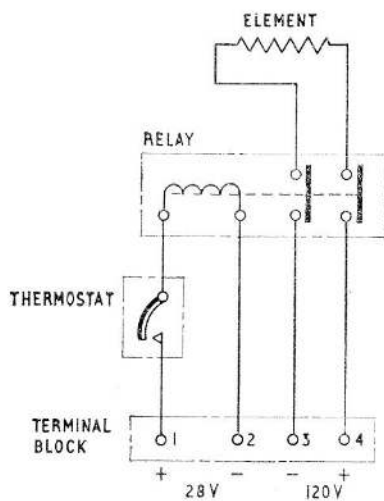

Fig. 1. Circuit diagram
1. These heaters are similar to the 28 volt water heaters (G.E.C. H.O. 800 series) details of which are given in Sect. 10, Chap. 6 to which reference should be made for descriptive and operational details. The 112 volt heaters incorporate a relay which is fitted in the base of the unit and is used to control the supply to the heater element, a circuit diagram is given in fig. 1. Details of the individual heaters are given in the Appendices to this chapter.